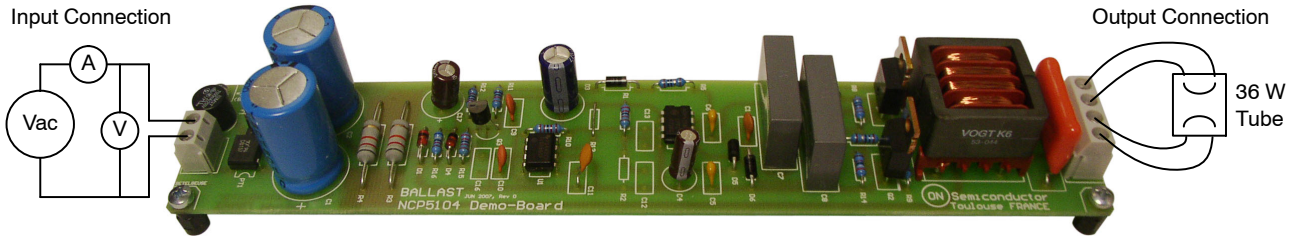

Figure 8. Ballast Connection
5. If you get the correct output and input voltage, you can connect a 36 W fluorescent tube on the output (see Figure 8).